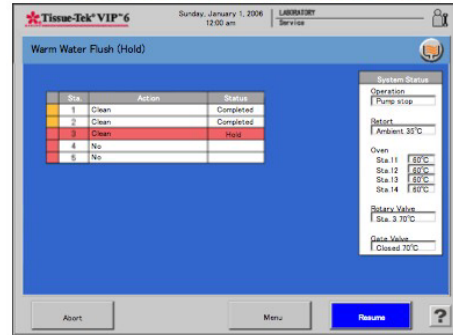

Figure 4-U
- The Warm Water Flush screen is displayed (Figure 4-U).